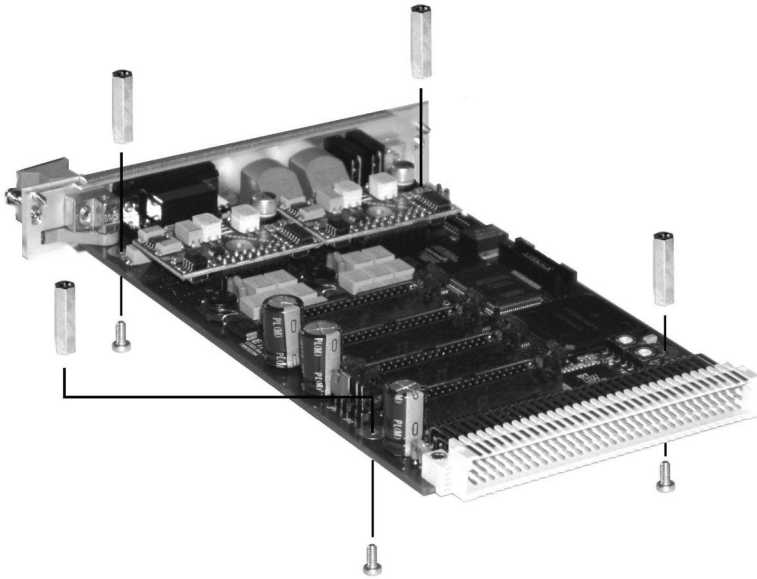

Fig. 4-4 Mounting Distance Pins on the ES1651.1-B Carrier Board
- Screw all four distance pins onto the ES1651.1-B Carrier Board (distance pins on the component side, screws on the solder (dip) side, see Fig. 4-4)